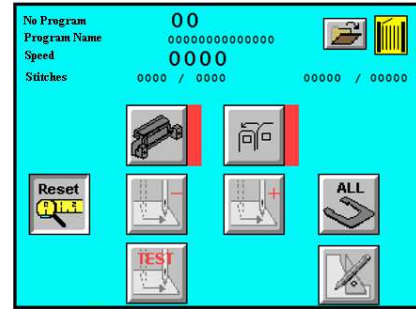

Fig.7
12.1.1 Deactivate the “AUTOMATIC” button , press the pedal until the screen as fig. 7 appears.